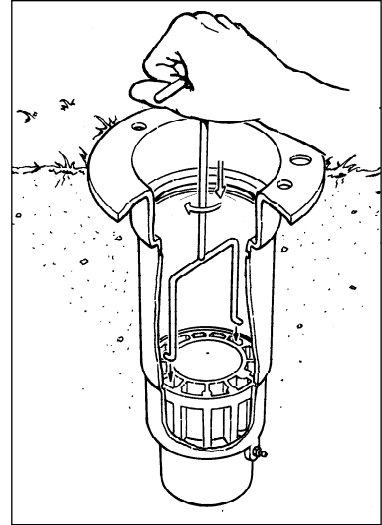

Figure 7
2. Use valve removal tool (P/N 995-09) to remove valve assembly from base of sprinkler body. Valve Removal Tool is inserted into sprinkler body and pushed through valve ribs to the underside of valve. A slight twist will lock tool to valve enabling removal by pulling straight up and out. (See **Figure 7**).